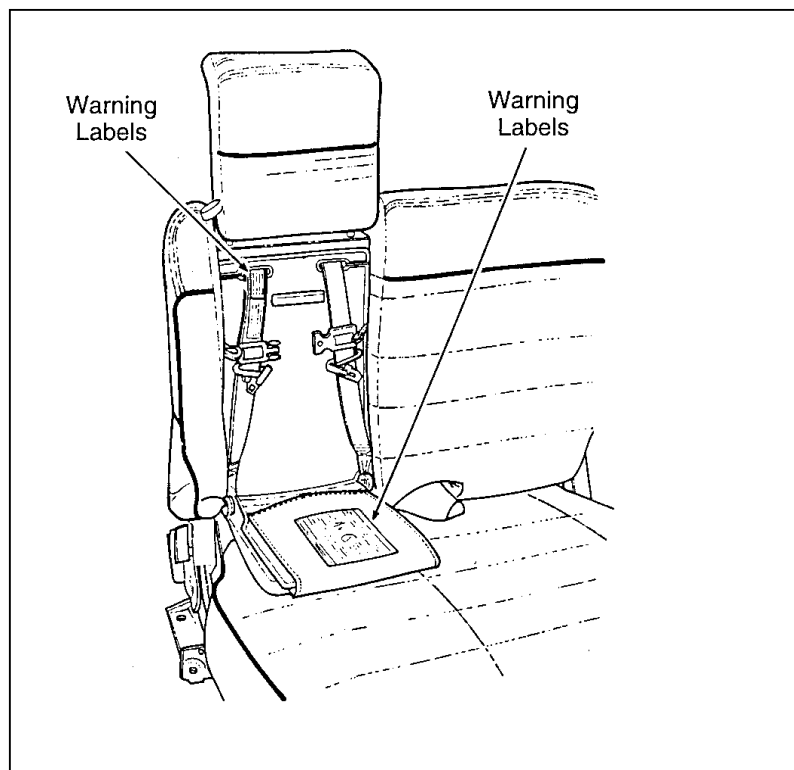

Figure 5: Child seat information and warnings
4. Lower the child seat cushion onto the adult seat cushion. Read the information and warnings carefully on the child seat cushion protector flap and shoulder safety belt. Check the child's size, weight and age to be sure that the child is not too small or too large for the seat. Refer to Figure 5.
5. Unfold cushion protector flap onto adult seat cushion. Refer to Figures 5 and 6.
1. Fold the protector flap over the child's seat cushion. Refer to Figure 5.